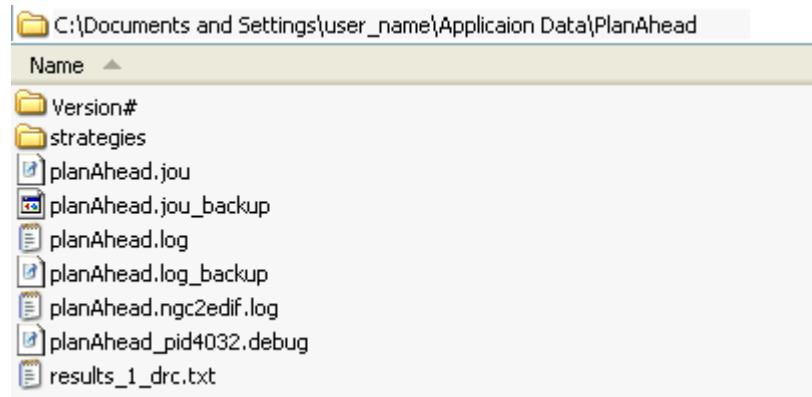

Figure A-1: PlanAhead Directories for Reporting Output
Figure A-1, page 429 shows a the directory structure used for reporting output on a Windows OS. When the file location is not user-specified, the PlanAhead tool places report output files as follows:
- For Windows the location, as shown in Figure A-1, would be: